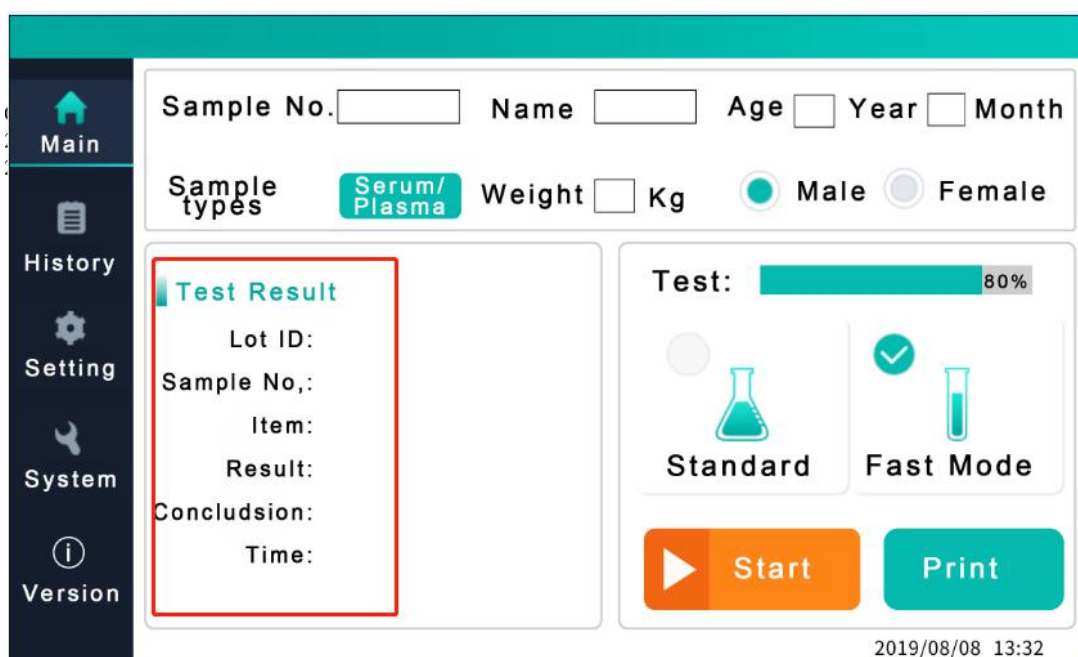

Figure 5.6
2.6 The test result will be showed under the “Result” of the screen. (See **Figure 5.6**)